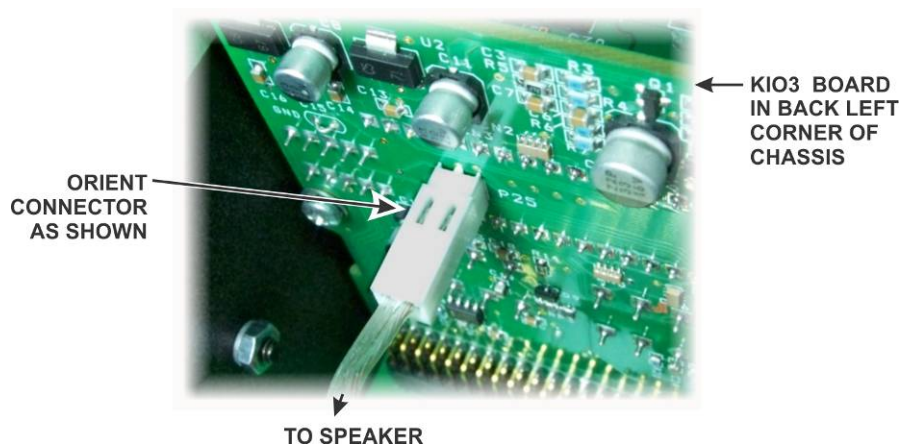

Figure 15. Connecting Speaker Cable.
- ☐ Hold the top cover above the K3S/ K3, route the speaker wire under the stiffener bar and plug it into P25 on the KIO3 or KIO3B board at the left rear of the chassis as shown in Figure 15.